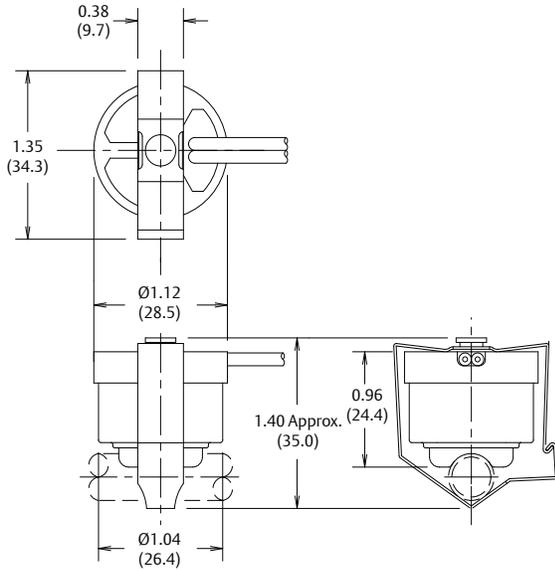

Figure 3
**Clip-in Mounting** – Clip-in mounting brackets (see figure 3) hold the sensing element firmly against the surface where the thickness of the surface is from .03” (0.8mm) to .06” (1.5mm).